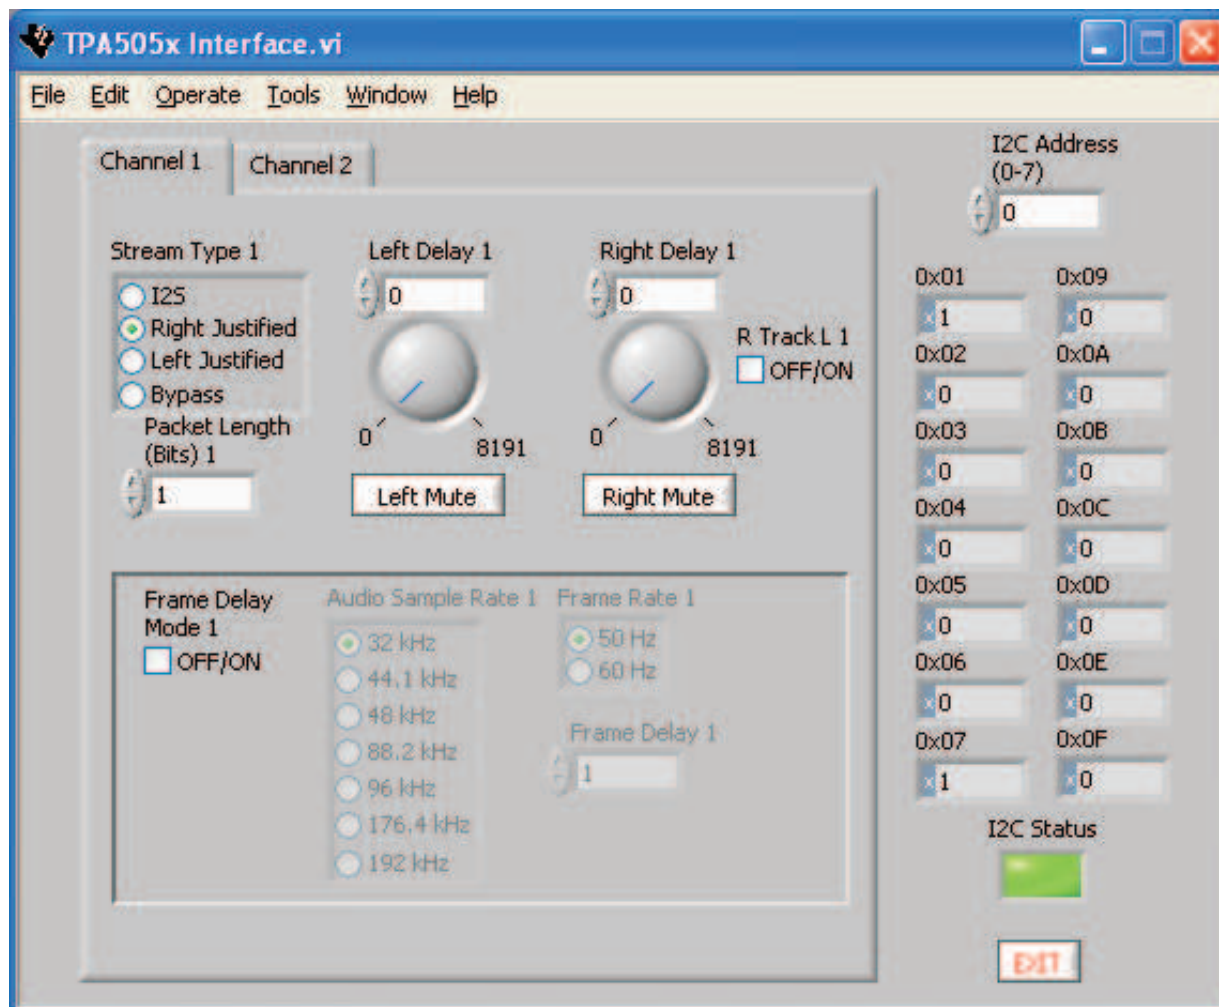

Figure 3. TPA5051 in Right-Justified Mode
6. Clicking on the Right Justified mode under *Stream Type* brings up a hidden window, called *Packet Length*. Through this, the number of packet lengths to be delayed can be entered (see Figure 3).